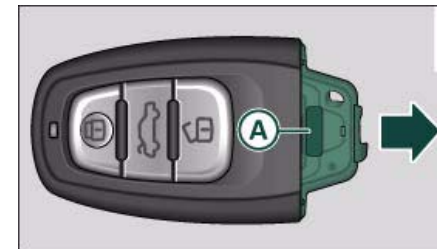

Fig. 30 Remote control key: Removing the battery carrier
- Press the release catch **(A)** ⇒ *page 40*, fig. 30 on the battery carrier and at the same time pull the battery carrier out of the remote control key in the direction of the arrow.